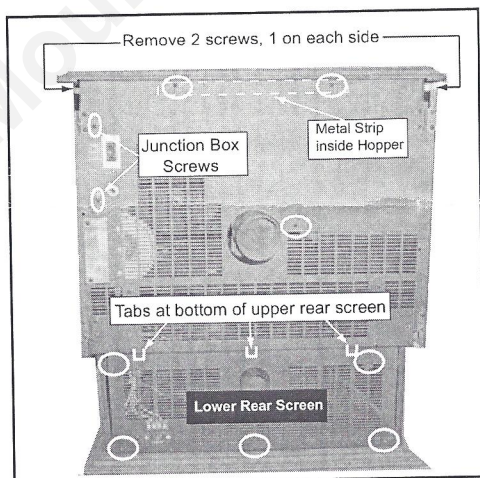

Figure 1
4. Remove the upper rear screen from the appliance by removing 2 screws at the top, 1 in the center and 2 screws on the sides at the top. Inside the hopper is a metal strip that the top 2 screws penetrate. Be careful not to drop the metal strip into the hopper. **Figure 1.**